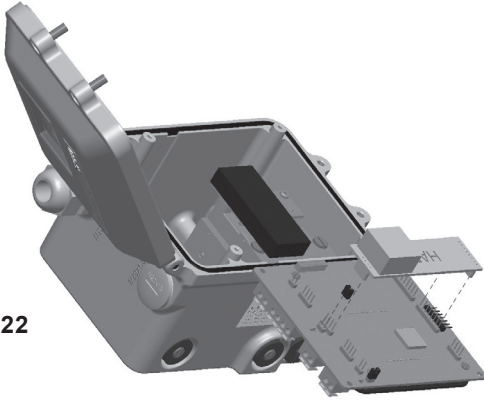

Fig. 22
- Insert the HART® option board as shown in Figure 22.